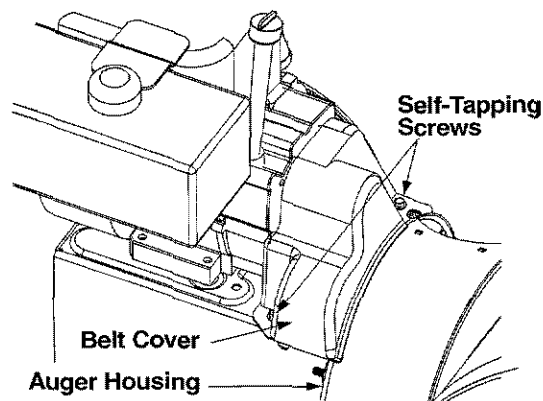

Figure 18
- Remove the plastic belt cover on front of the engine by removing the two self-tapping screws. See Figure 18.